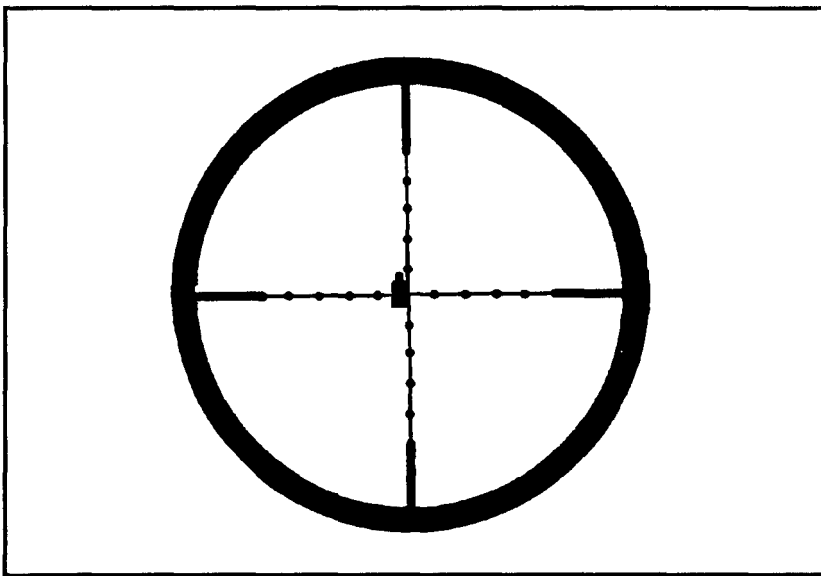

Figure 3-26. Holdoff for 7.62-mm special ball (M118).
a. When using the M3A scope, the sniper uses the horizontal mil dots on the reticle to hold off for wind. For example, if the sniper has a target at 500 meters that requires a 10-inch holdoff, he would place the target's center mass halfway between the cross hair and the first mil dot ($1/2$ mil) (Figure 3-26).